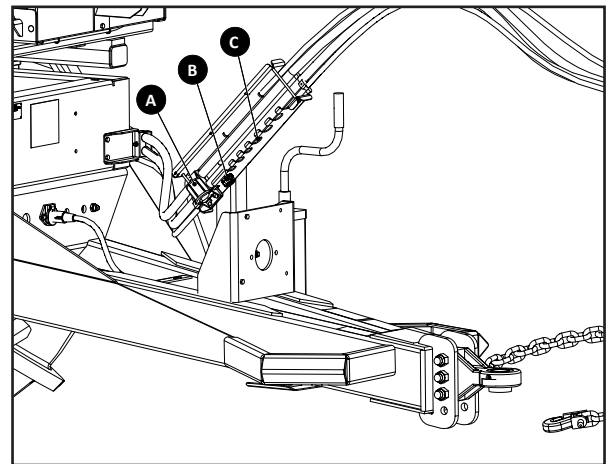

Figure 11
4. Place all power connections in storage positions as shown in Figure 11:
- Store light connector in storage bracket located on hose guide (A).
- Store ISOBUS connector in receptacle (B).
- Store hydraulic hoses in provisions on hose guide (C).